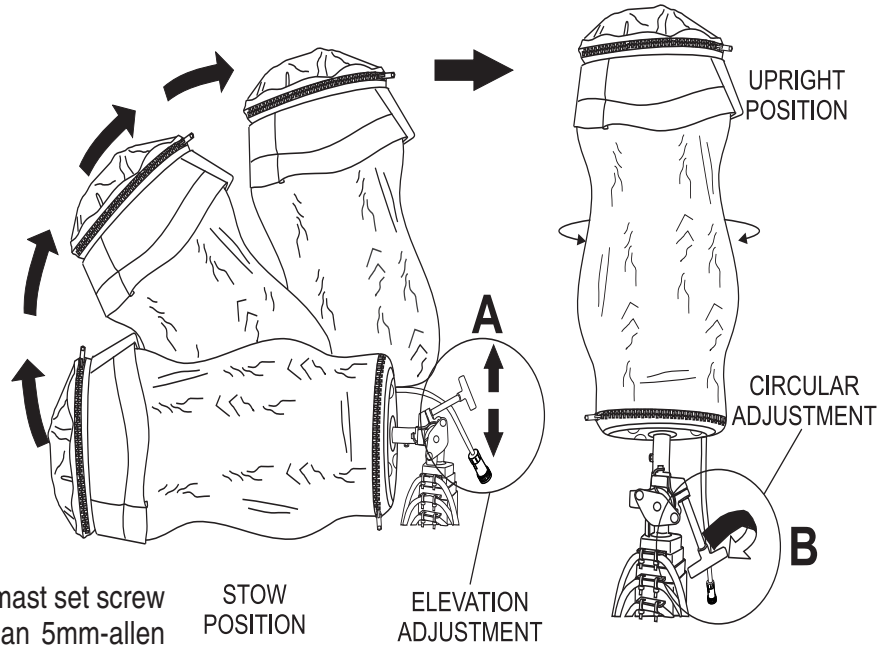

Figure 10. Positioning the Balloon
4. Expose the balloon by pulling down on the velcro tabs and unzip the protective cover as shown in Figure 10. Next, fold the protective cover into itself and zip.
- To position the balloon, simply loosen the adjustment lever by turning it counter-clockwise and either push down or up on the lever. Pushing **down** on the lever will cause the balloon to rise. Pushing **up** on the lever will allow the balloon to be lowered. See insert A in Figure 10.